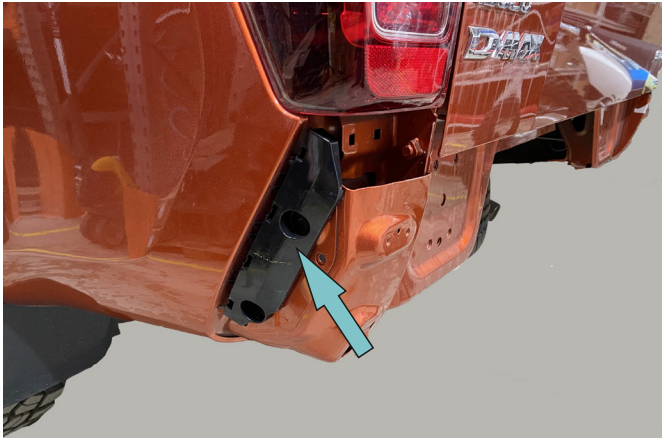

Fig. 7
7. Remove pads from OE rear wings on the left and right side of the vehicle (Fig. 7).